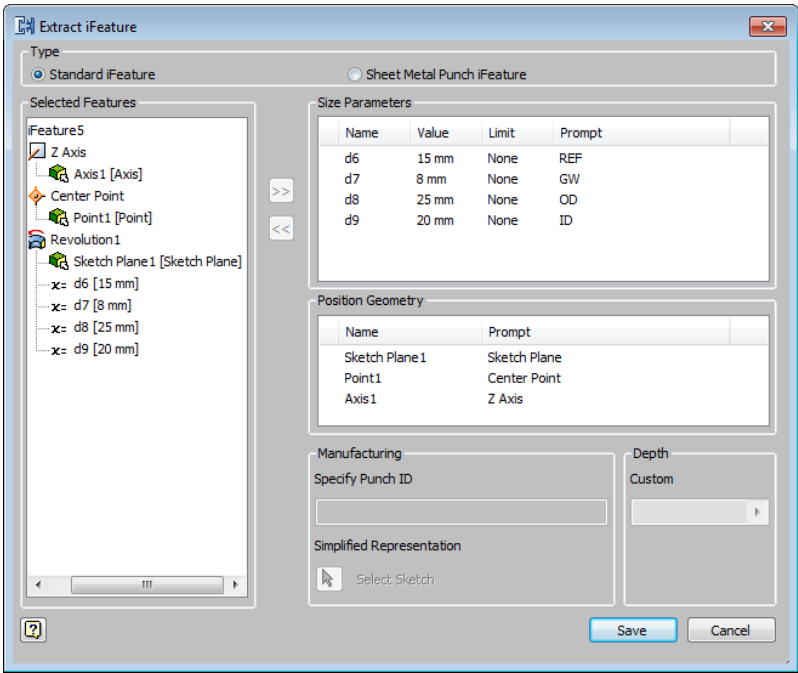

Figure 17-36 The *Extract iFeature* dialog box
- 11. Similarly, change the fields corresponding to **Point1** and **Axis1** to **Center Point** and **Z Axis**, respectively in the **Prompt** column of the **Position Geometry** area. After changing the prompts, the **Extract iFeature** dialog box appears, as shown in Figure 17-36.